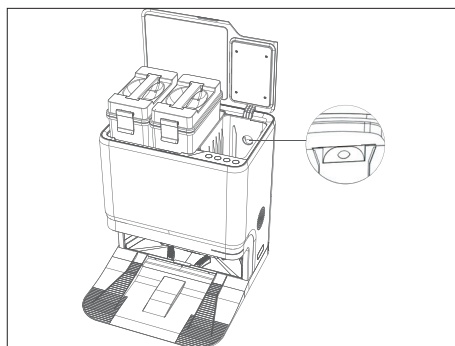

Fig. 16 – Replacing the dust bag
- ▶ Insert a new dust bag into the holder in the chamber as shown (**see Fig. 16**).